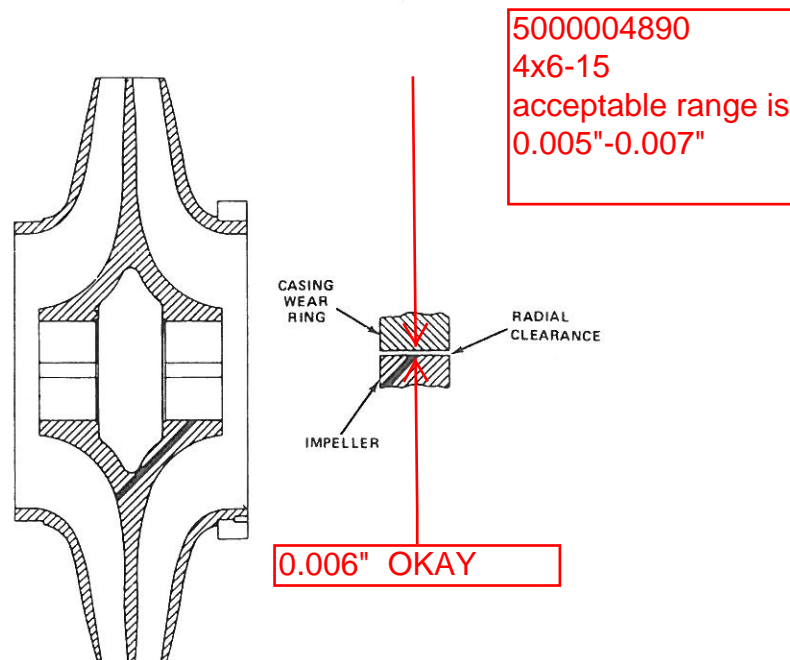

Figure 3-5
a. O-rings - Inspect O-rings (497) and replace if damaged. (M, L, XL groups only).
b. Wear Rings - The original radial clearance between the impeller and the casing wear rings is shown in fig. 3-5 and table 3-2. When hydraulic performance is reduced substantially, the casing rings should be replaced.